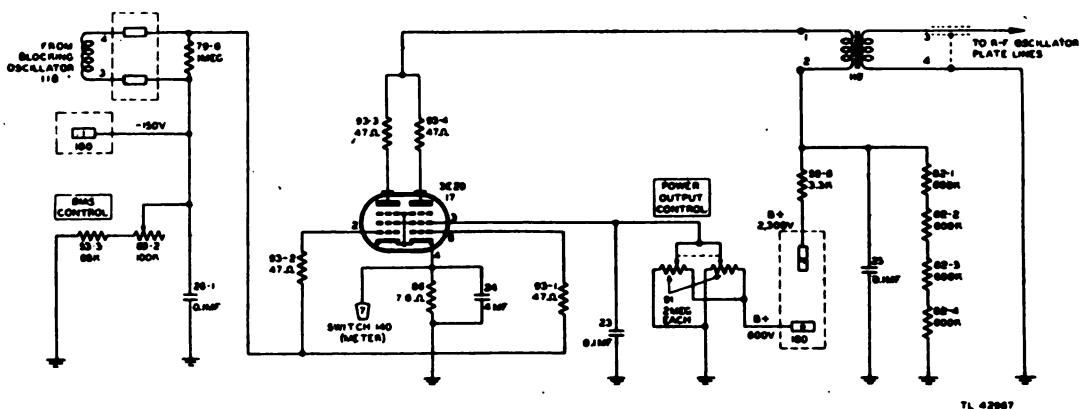

Figure 11. Transmitter, modulator circuit.
**a. General.** Tube 17 (3E29) is used as a modulator or driver tube to trigger the r-f oscillator (fig. 11).
**e. Meter Circuit.** Resistor 86 (fig. 11) is the d-c return path for the modulator tube and it is bypassed for the pulse by capacitor 24. Resistor 86 also serves as a shunt for meter 160 (0-1 ma). This meter can be connected into the cathode circuit by means of TEST SWITCH 140 (fig. 14).